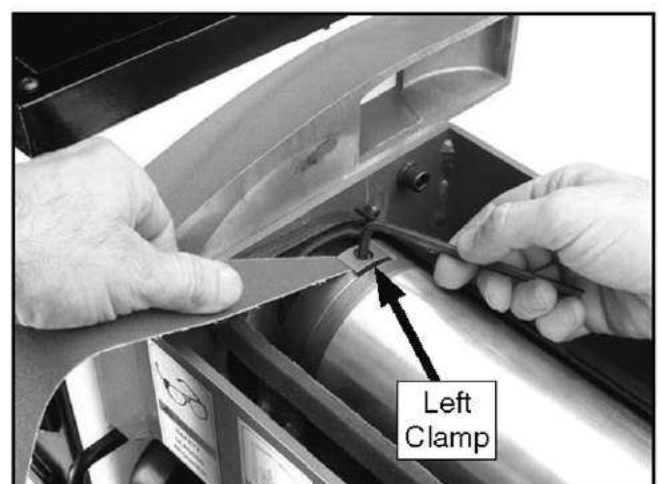

Figure 21. Securing sandpaper in left clamp.
7. Insert corner of new sandpaper into left clamp and tighten cap screw, as shown in **Figure 21**.